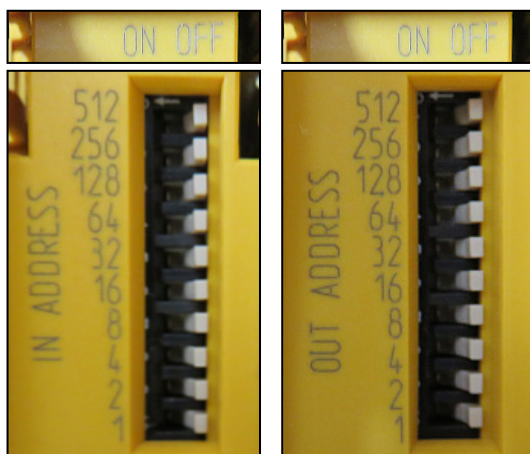
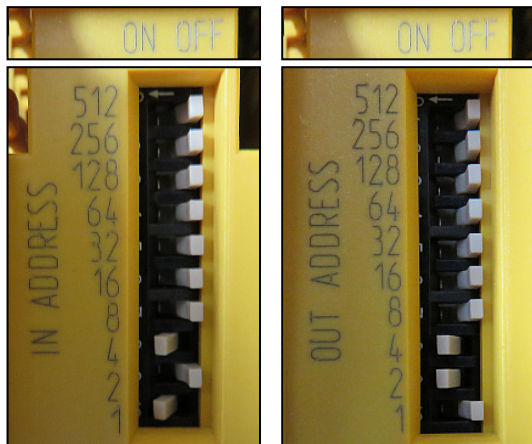

Figure 41: PSS u2 – Head module » Setting of DIP switches for [Variant A]
Figure 42: PSS u2 – Head module » Setting of DIP switches for [Variant B]
- from the DIP switch of the 'IN ADDRESS' for the head module (Figure 42 [33]) or
- » F-addresses are not set on the DIP switches (Figure 41).
- » Both F-addresses are set on the DIP switch (Figure 42).
1. [Variant A] in the 'PASconfig' tool with the setting in Figure 41 [32] or [Variant B] directly on the head module on the DIP switches as shown in Figure 42 and